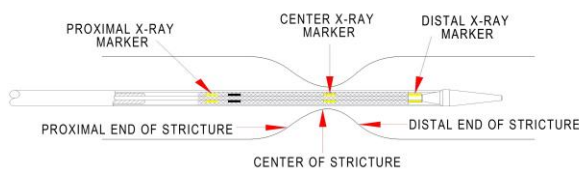

Figure 4
- When the center X-ray marker reaches the center of target stricture, continue pulling back on the Y-connector until the stent is fully deployed. (See figure 4, 5)